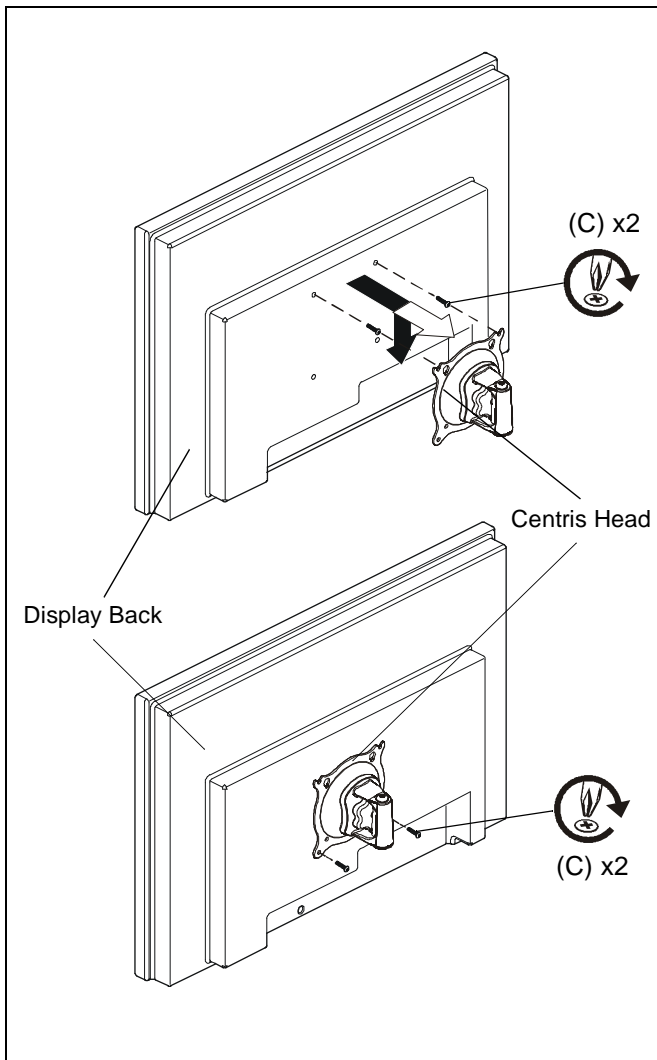

Figure 3
1. Install two Phillips pan head machine screws (C) into upper mounting holes in display back. (See Figure 3)
2. Hang display on two Phillips pan head machine screws (C) installed on display back. (See Figure 3)
3. Install two Phillips pan head machine screws (C) through lower mounting holes in centris head and into lower mounting holes in display back. (See Figure 3)